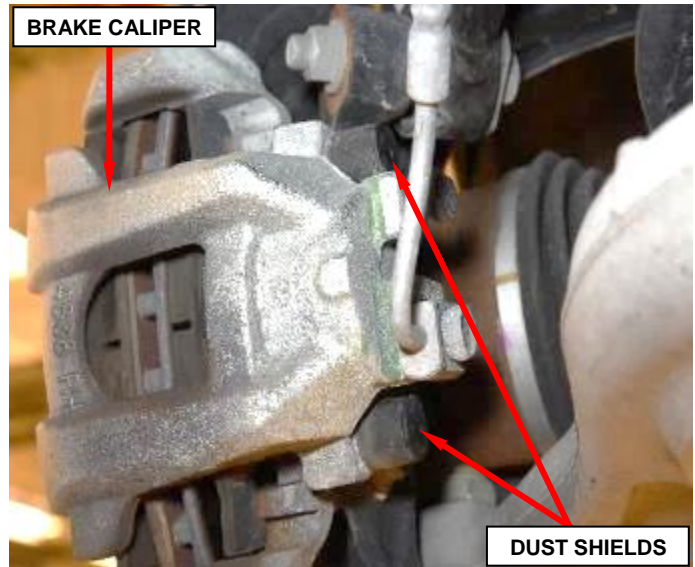

Figure 2 – Brake Caliper Dust Shields
5. Remove and save the slide bolt (guide pin) dust shields from the rear brake caliper (Figure 2).
33. Install the rear brake caliper slide bolt (guide pin) dust shields (Figure 2).